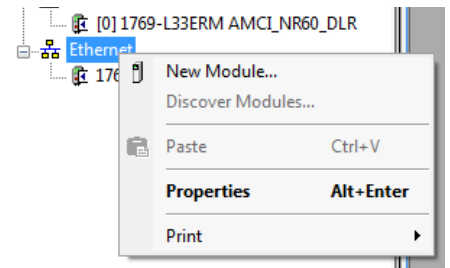

Figure 4.1 Adding an NR60
- 1) As shown in figure 4.1 on the right, the Ethernet port will be listed under the I/O Configuration tree. Right click on the port and then click on "New Module..." in the pop-up menu.